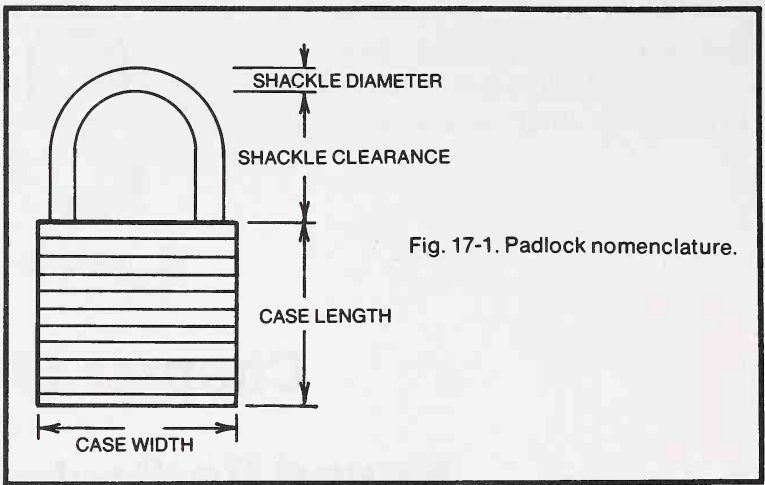

Fig. 17-1. Padlock nomenclature.
- If width, case length, and shackle clearance are critical (Fig. 17-1).